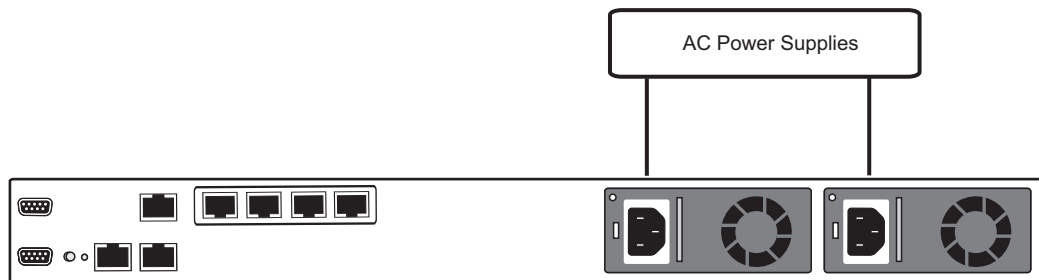

Figure 3.4 AC Power Connections
1. Connect the first power connector of the 7800-CTRL to the first power source. See Figure 3.4.